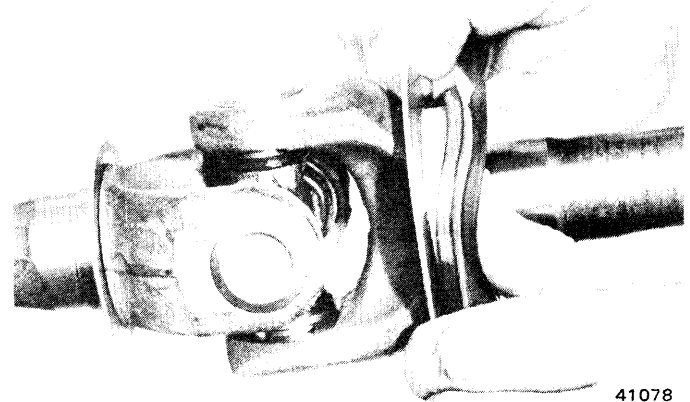

Fig. 10-13 Axle Shaft Seal Replacement
- (1) Remove seal (fig. 10-13).
- (2) Remove bronze thrust washer. If washer is worn, replace it.
- (3) Clean area of dirt and foreign matter.
- (4) Install bronze washer with chamfered side toward axle shaft seal.
- (5) Install seal. Direct lip of seal toward spindle (fig. 10-13).
- (6) Pack wheel bearing grease around thrust face of shaft and seal. Fill seal area of spindle with wheel bearing grease.